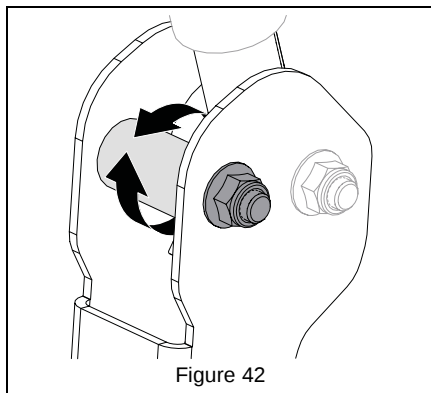

Figure 42
6. Turn eccentric spacer so levers are at the same height and have a 1.3 – 2.5 cm (1/2 – 1") gap between lever ends. See Figure 42.